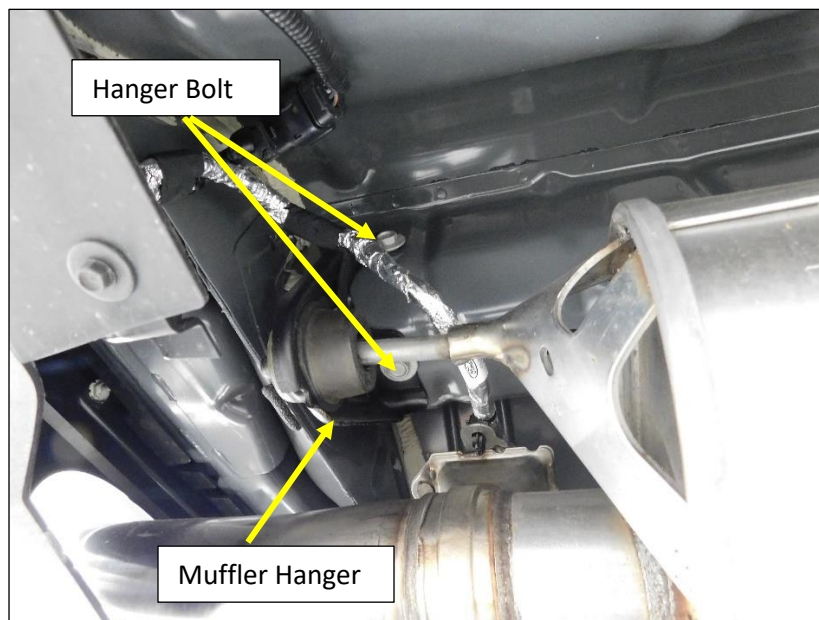

Figure 5
6. Remove the (x2) bolts from the muffler hanger mounts directly over the mufflers (Fig. 5).